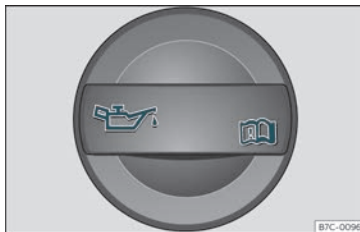

Fig. 203 In the engine compartment: Engine oil filler cap.
- Unscrew cap from engine oil filler opening >>> Fig. 203.